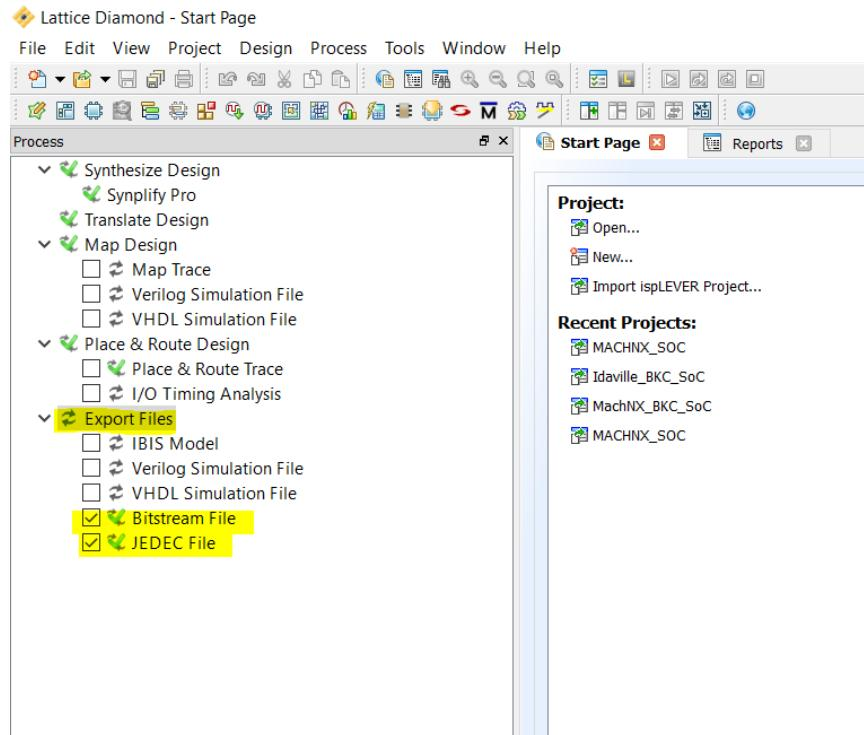

Figure 3.4. Click the Checkboxes for Bitstream File and JEDEC File
6. Select the **Process** tab. Under **Export Files**, click the **Bitstream File** and **JEDEC File** checkboxes as shown in Figure 3.4.
7. Double-click on the **Export Files** shown in Figure 3.4 to generate the signed .jed and .bit files. These files are signed with the auto generated key pair as a signature placeholder. This placeholder signature is later replaced with the signature generated by the customer key by the FST scripts.
8. The green check marks, shown in Figure 3.4, indicate that the processes have completed and the .jed and .bit files have been created successfully.